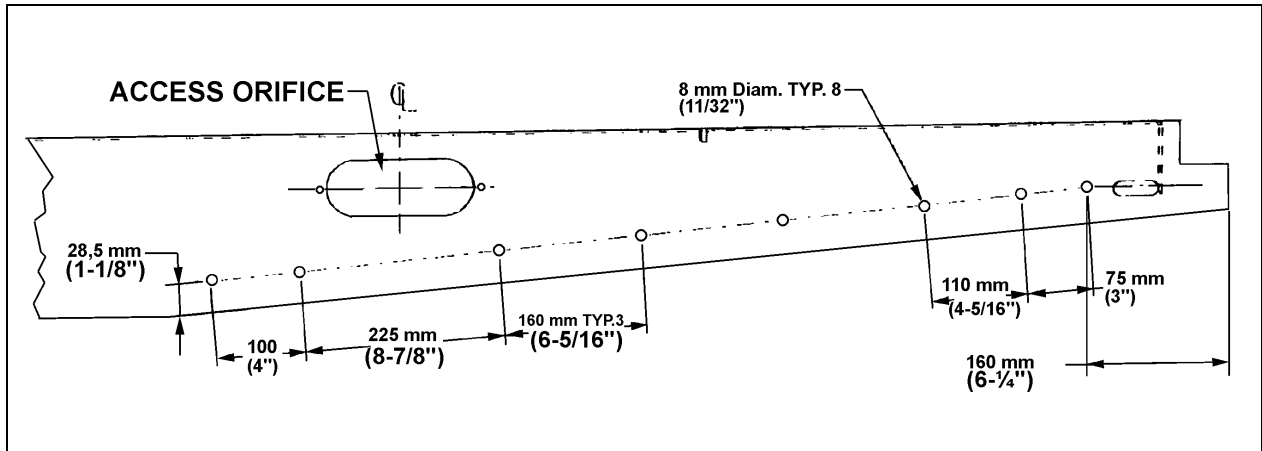

FIGURE 6 : XL SERIES VEHICLES DRILLING DIAGRAM
2. Drill eight 11/32 inch (8 mm) holes into the coach chassis using drilling diagram as a reference (refer to figure 6).